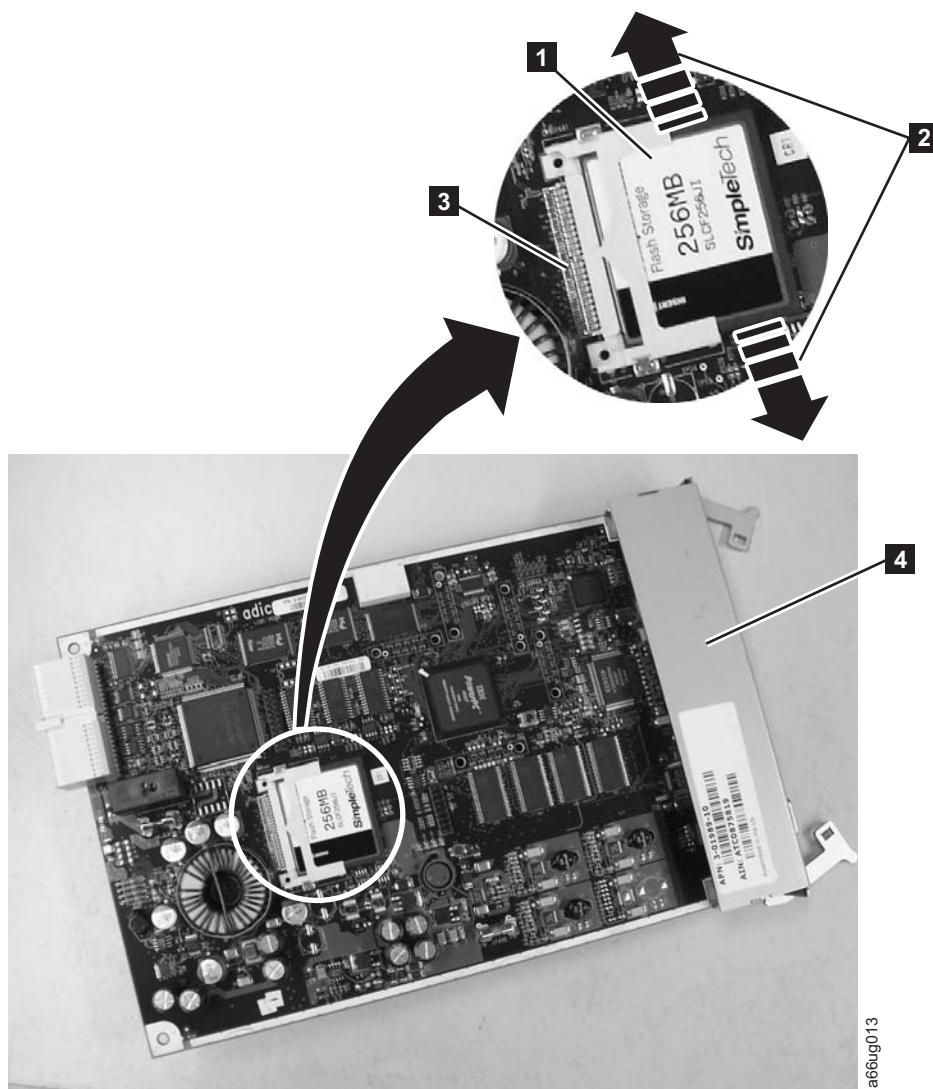

Figure 12-29. Removing the Compact Flash card from the Library Control Blade
1. Locate the compact flash card component on the LCB board (**1** in Figure 12-29).
2. Without touching any other components on the LCB firmware board, carefully grasp the compact flash card and wiggle it using a gentle, side-to-side motion (**2** in Figure 12-29) until the pins on the compact flash card become
disconnected from the pins on the LCB board (**3** in Figure 12-29 on page 12-31). Then, slowly slide the compact flash card out of the guide slots.
4. If you are installing a new LCB, continue by transferring the old CF to the new LCB. If you are installing a new CF card, continue by installing the new CF card in the old LCB. In either case, install the appropriate compact flash card to the LCB board you are installing with the label up, and pins aligned. Without touching any other components on the LCB board, carefully grasp the compact flash card, and slowly slide it into the guide slots. Continue to push the compact flash card into the guide slots until the pins start to connect. Then, hold the LCB board metal connector shield (**4** in Figure 12-29 on page 12-31) with one hand and push the compact flash card into the connector with your other hand. The compact flash card must be firmly seated against the connector (**3** in Figure 12-29 on page 12-31).